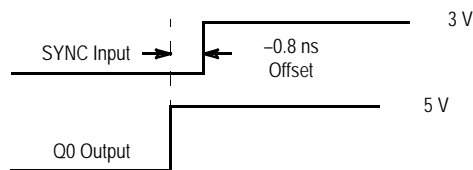

Figure 3. Depiction of the Fixed SYNC to Q0 Offset (t_{PD}) Which Is Present When a 470 K Ω Resistor Is Tied to V_{CC} or Ground
2. A 470 K Ω or 1 M Ω resistor tied to either Analog V_{CC} or Analog GND, as shown in Figure 3, is required to
ensure no jitter is present on the MC88LV926 outputs. This technique causes a phase offset between the SYNC input and the Q0 output, measured at the pins. The t_{PD} spec describes how this offset varies with process, temperature, and voltage. The specs were arrived at by measuring the phase relationship for the 14 lots described in note 1 while the part was in phase-locked operation. The actual measurements were made with a 10 MHz SYNC input (1.0 ns edge rate from 0.8 V to 2.0 V). The phase measurements were made at 1.5 V. See Figure 3 for a graphical description.
to pull up the $\overline{RST_OUT}$ pin when it goes into the high impedance state (after the MC88LV926 is phase-locked to the reference input with $\overline{RST_IN}$ held high or 1024 'Q' cycles after the $\overline{RST_IN}$ pin goes high when the part is locked). In the t_{PLZ} and t_{PZL} specifications, a 1 K Ω resistor is used as a pull-up as shown in Figure 3.